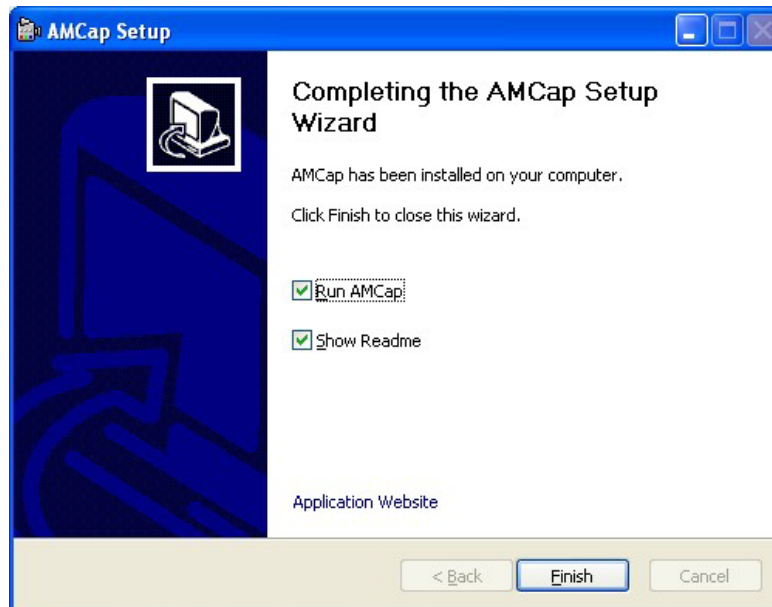

Figure 8-44: AMCap Driver Installation Complete
Step 9: When the driver installation is complete, the screen in **Figure 8-44** appears.